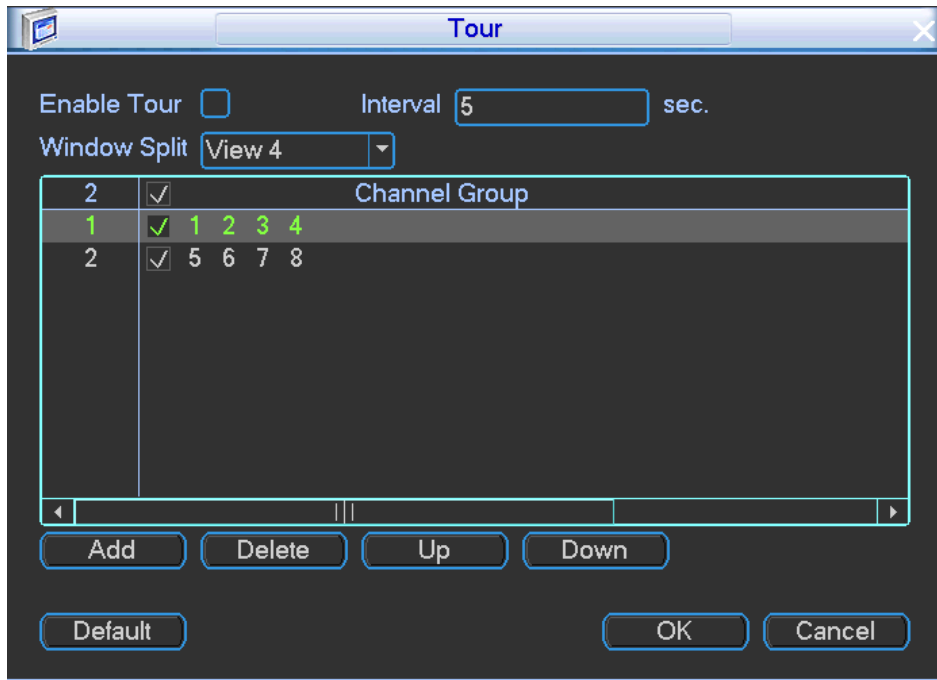

Figure 4-78
- Tour: Click Setup button, enter tour interface. See Figure 4-78.